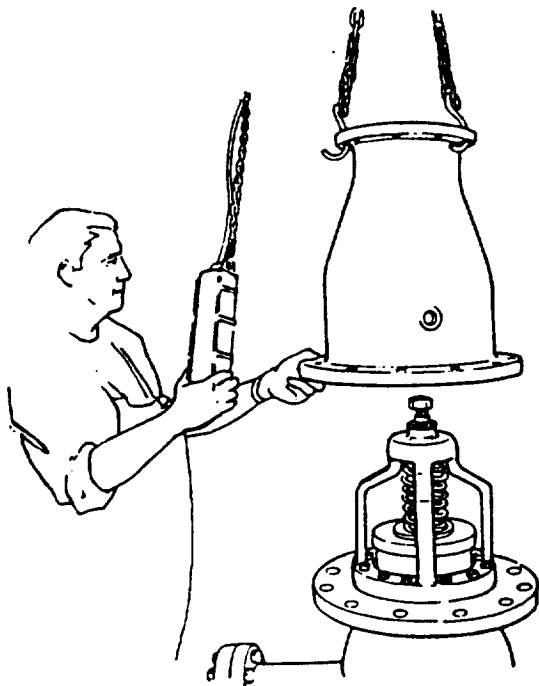
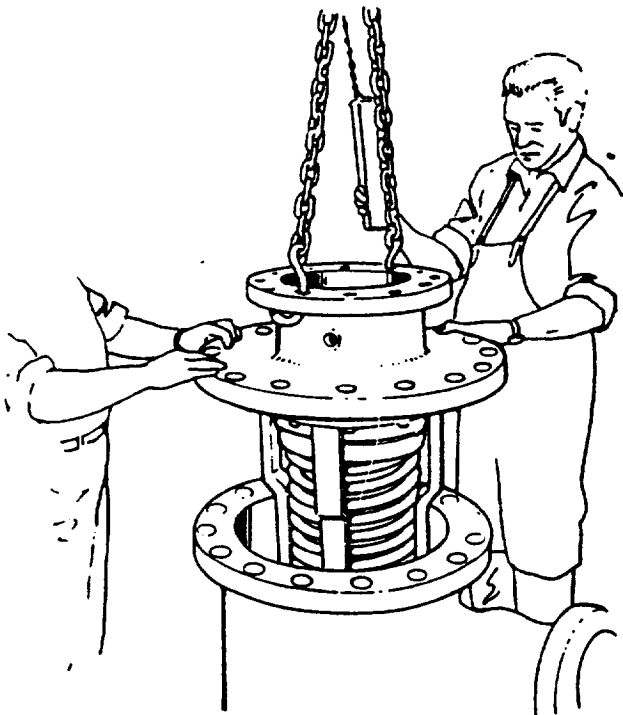

FIGURE 31
FIGURE 32
- b. Remove outlet adapter flange bolts, and lift off the outlet adapter (see Fig. 31).
- c. Remove the 8 seat cap screws (5) adjacent to the legs of the spring retainer (3) and lift the check valve assembly off with a hoist, or disassemble in place. (See Step 3.)
- e. Break union in control line and lift off inlet adapter with a hoist (Fig. 32).
- f. Remove the 8 seat cap screws (5) adjacent to the legs of the spring retainer, and lift the valve assembly off the inlet adapter with a hoist or disassemble in place. (See Step 3.) Both check valves are now ready to be disassembled.